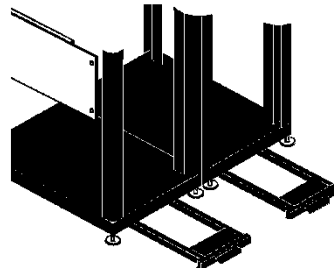

Figure 1. Cabinet Shipping Panels and Anti-Tip Foot
Extend the cabinet's anti-tip stabilizer before moving any components forward out of the cabinet on their slides. See Figure 1.
- If the cabinets are empty and were just unpacked, find and remove the four shipping panels inside the cabinet enclosures. See Figure 1.
- Remove the right side panel from Cabinet 1. (See Figure 1). Remove the two screws at the base of the side panel. Open the rear door and loosen the panel clamp on the door hinges. Grasp the sides of the side panel and pull the bottom of the panel away from the cabinet slightly. Then lift up and away.